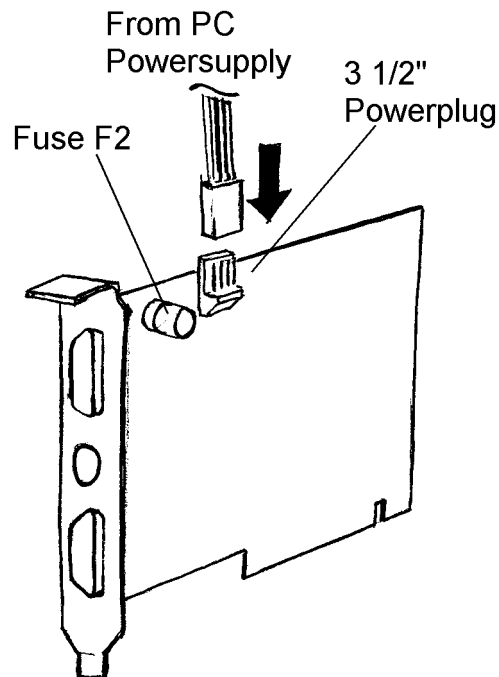

Figure 7: Power Supply via the Grabber
- A power plug must be connected to the computer's 3¹/₂" power socket in order to supply the camera with a power supply via the Grabber. (The 1.6 A fuse in socket F2 secures the power supply output.) *Figure 7* depicts the connection.